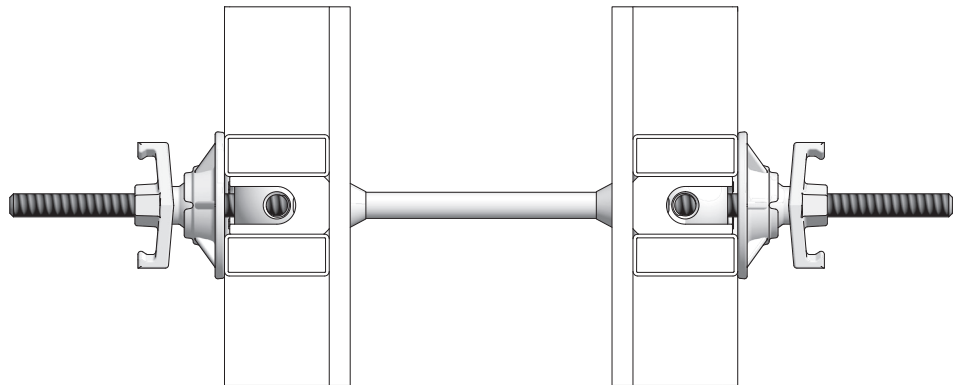

Fig. 15.2
- Two-sided tying with DW tie rod and plastic tube (Fig. 15.2)